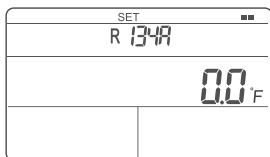

Fig. 7 Temperature unit setting
1. Press and hold **MODE** to enter the parameter setting interface (Figure 7)